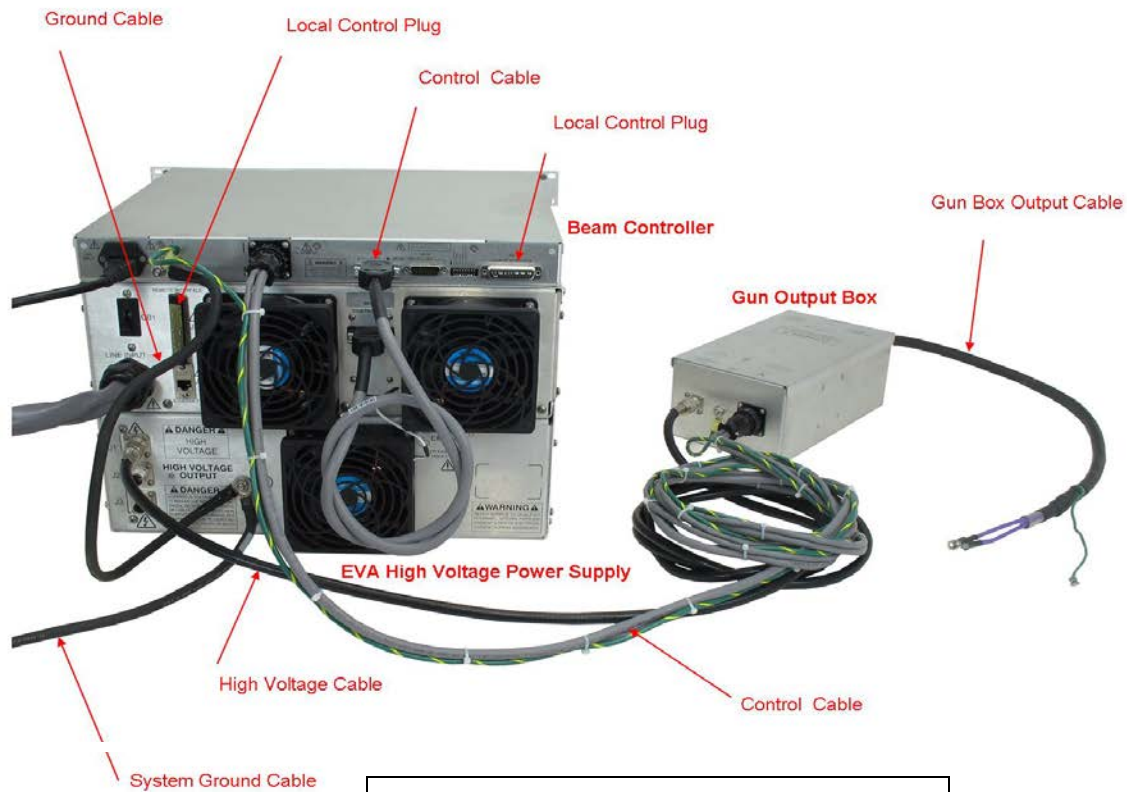

Figure 6.2 Typical Operating Setup
- C) **PROPER GROUNDING TECHNIQUE:** The chassis of the high beam controller and the gun output box must be properly grounded. Connect the ground cable from the gun output box to the beam controller using the ¼-20 ground studs. Connect the ground cable from the beam controller to the EVA high voltage power supply using the ¼-20 ground studs. See Figure 6.2 for a typical operating setup.